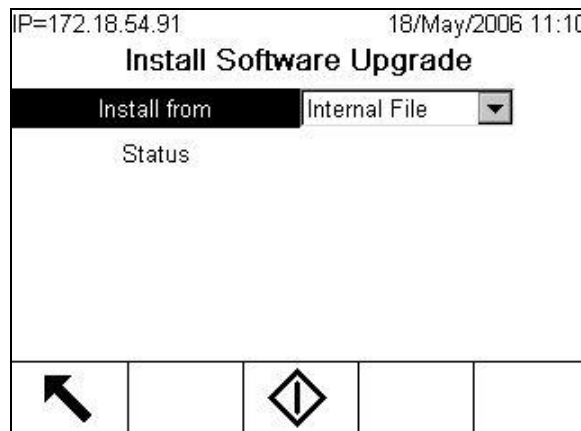

Figure 4-2: Firmware Upgrade Screen
5. Use the arrow keys to move focus to Maintenance > Run > Install Software Upgrade. When the node is in focus, press ENTER. The screen shown in Figure 4-2 will appear.